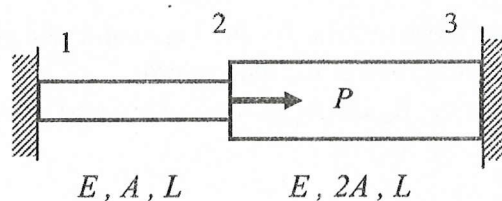

Figure 6.0 (a)
- (b) Show clearly in a step by step manner the development process of a stiffness matrix,  $[K]^e$ , for a triangular element in a state of plane stress as shown in Figure 6.0 (b). Given  $E = 200 \text{ GN/m}^2$ ,  $\nu = 0.3$  and  $t = 2 \text{ cm}$ .